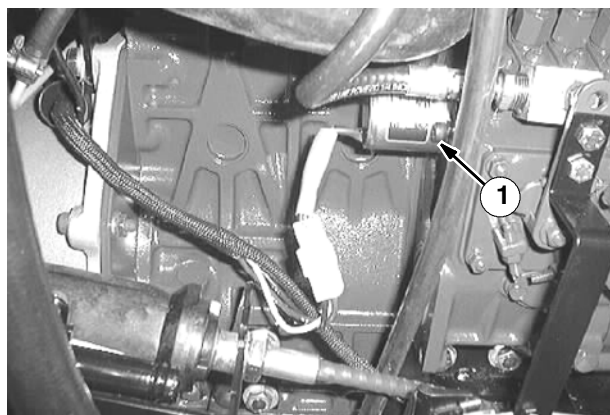

FIG. 1
1. Disconnect the stop solenoid wire harness from the main harness and remove the stop solenoid assembly from the machine. (Fig. 1)
2. Install the new stop solenoid (1) where the old stop solenoid was previously installed. (Fig. 1)